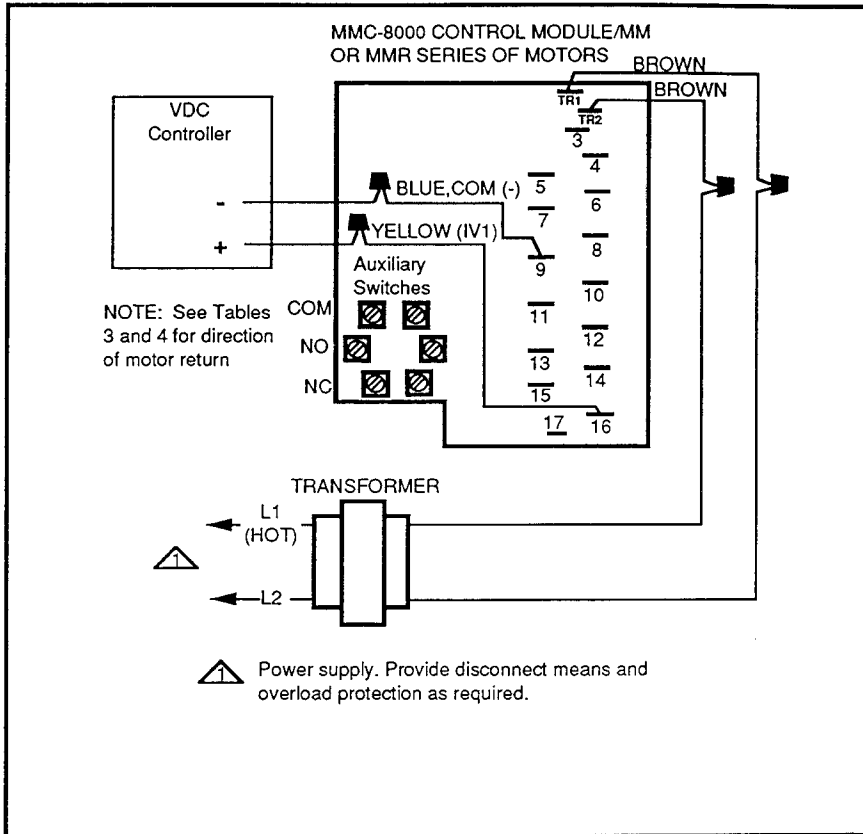

Figure 5. MMC-8000 Control Module and MM or MMR Series of Motors Controlled from a VDC Controller
3. Make the wiring connections in accordance with job wiring diagram (See Figures 5 through 11 and Table 2).
6. Install the leads to 1/4" spade lugs in the motor referring to Figures 5 through 11.